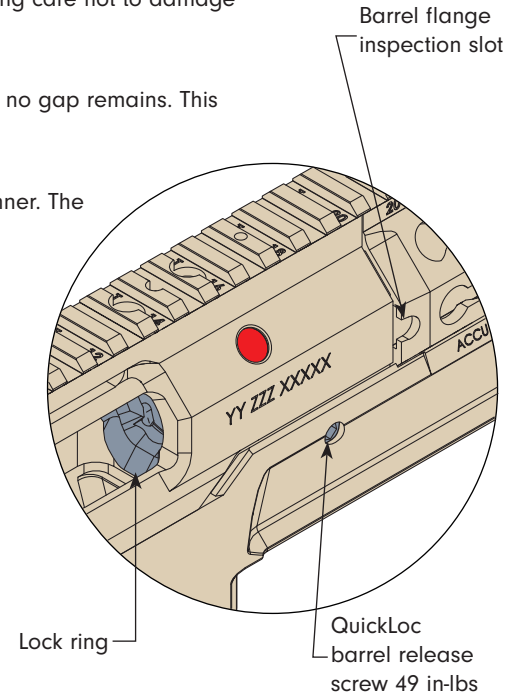

Fig 9
- Ensure that the flange on the barrel is touching the front of the action body and that no gap remains. This can be viewed through the inspection slot (see Fig 9).